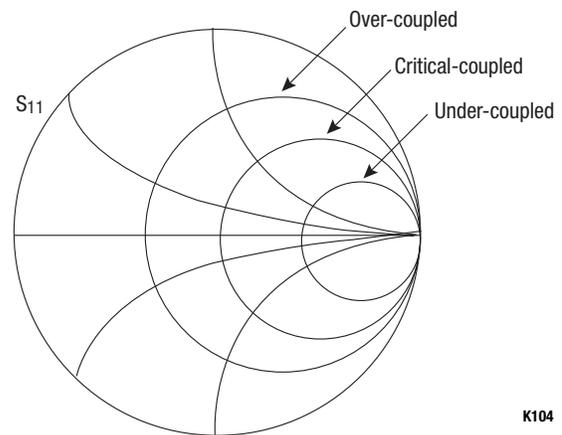

Figure 2. Smith Chart Coupled Responses
4. Insert the resonator's tab into the brass slot until critical coupling ($b = 1, R = Z_0$) is achieved (as shown in Figure 2).